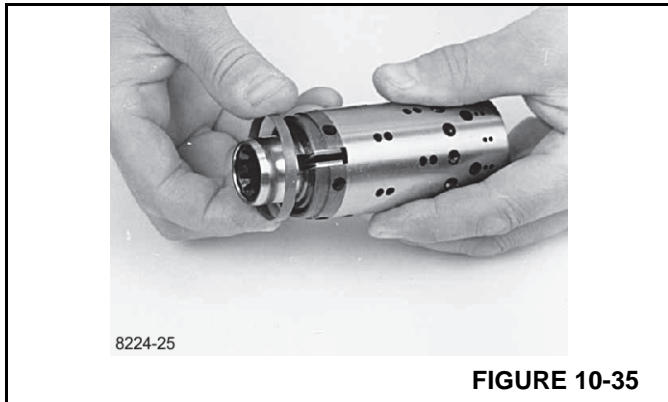

FIGURE 10-35
4. Guide the ring down over the sleeve (Figure 10-35).